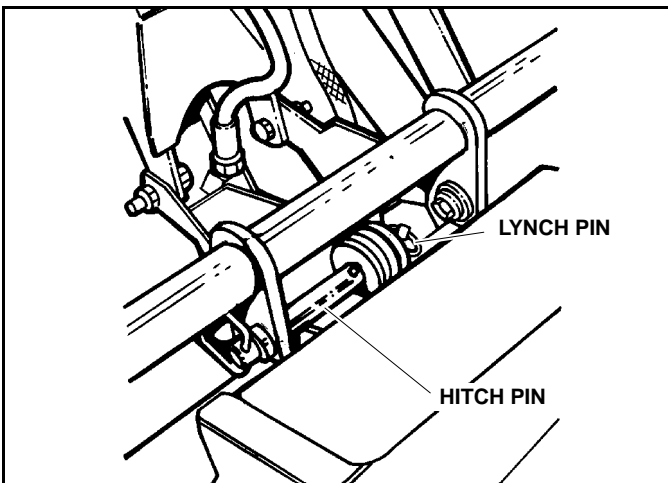

Figure 1-3
7. Align lift bar assemblies and install center pivot Hitch Pin, install Lynch Pin into Hitch Pin to secure it in place. (See Figure 1-3)